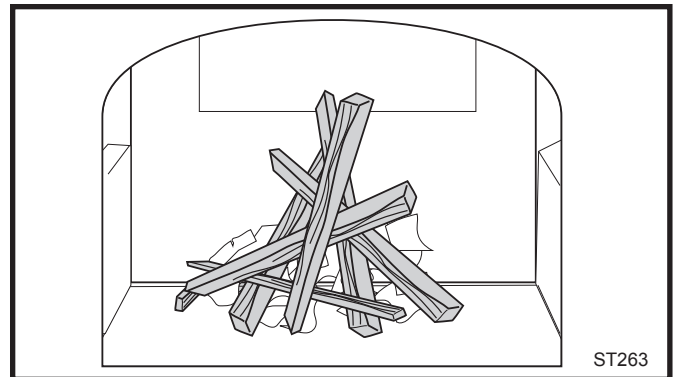

Fig. 33 Start the fire with newspaper and dry kindling.
2. Place several sheets of crumpled newspaper in the stove. Place six or eight pieces of dry kindling split to a finger-width size on the paper. On the kindling, lay two or three larger sticks of split dry wood approximately 1-2" (25-51 mm) in diameter. (Fig. 33)